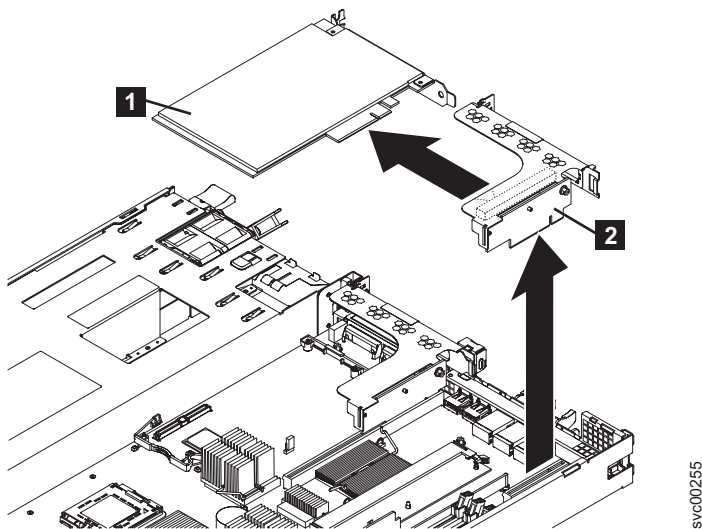

Figure 177. Removing the riser-card assembly from the SAN Volume Controller 2145-8G4
6. Grasp the riser-card assembly ( **2** in Figure 177) at the rear edge and lift to remove the riser-card assembly.